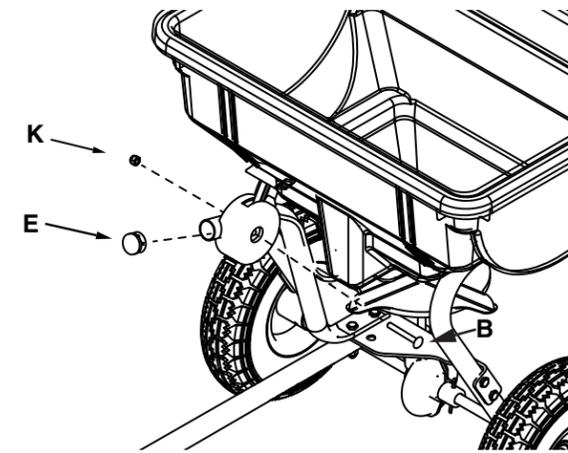

Figure 9
STEP 9 (SEE FIGURE 9): Attach the control cable to the control tube using a 1/4 x 2" carriage bolt (B) and 1/4" nylock nut (K). Insert a tube plug (E) into the end of the control tube. Tighten hardware but do not overtighten.